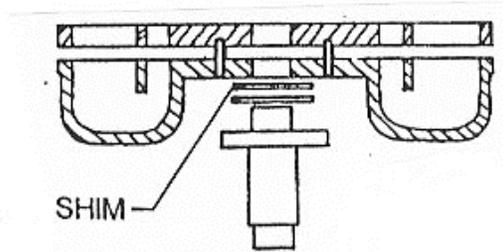

FIGURE 6
18. Secure the bowl and plate with the agitator in a clockwise direction. Snug it up with a light hammer blow on the agitator blades. The flange must sit down far enough to securely clamp the bowl and plate down against the drive shaft flange. If the threads bottom out before the flange contacts the plate you must remove the feed bowl and place a thick or thin shim(s) to make the required space so that the agitator shaft tightens securely against the top of the plate. See Figure 6.
19. Check the clearance between the hopper base and the wear plate. If a shim (.080) can be inserted between the plate and the hopper opposite the wear pad lip slot, add a shim under the material bowl. See Figures 6 & 7.